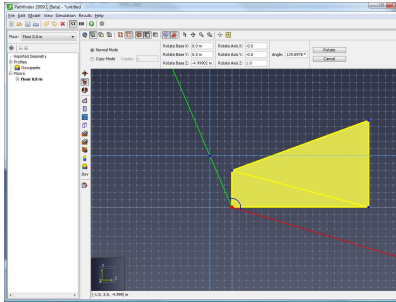

Figure 139. Reference line (red) and rotation angle (green)
- The second defines a reference vector extending from the rotation base (Figure 139).